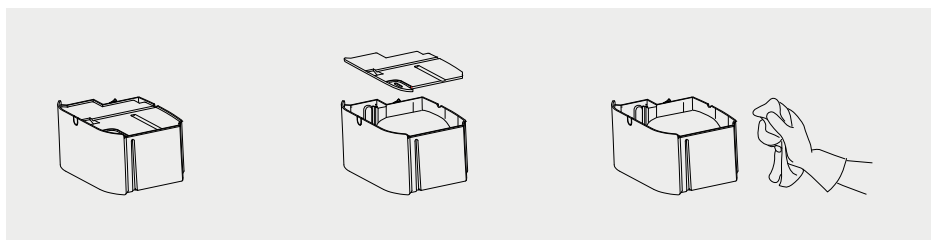

Fig. 8
- Clean the water tank every few weeks. Remove it from the appliance and take the cover (8) off (Fig. 8). Fill the tank with water with a detergent and wash it. Rinse and dry after washing. Wash the cover (8) in water with a detergent.